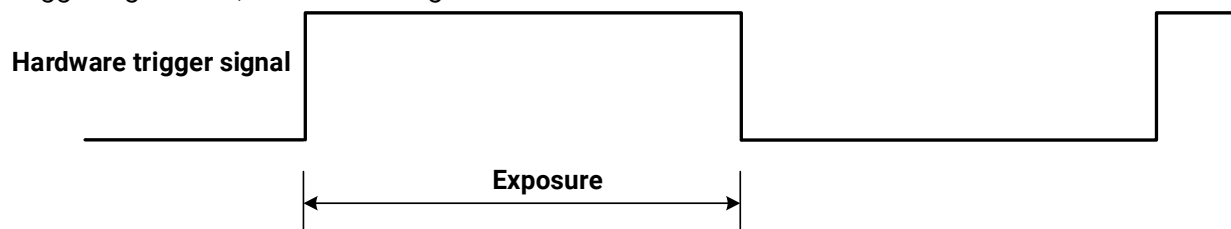

Figure 8-25 The sequence diagram in rising edge trigger of TriggerWidth exposure mode
- If rising edge triggering is enabled, exposure starts when the trigger signal rises and continue until the trigger signal falls, as shown in Figure 8-25